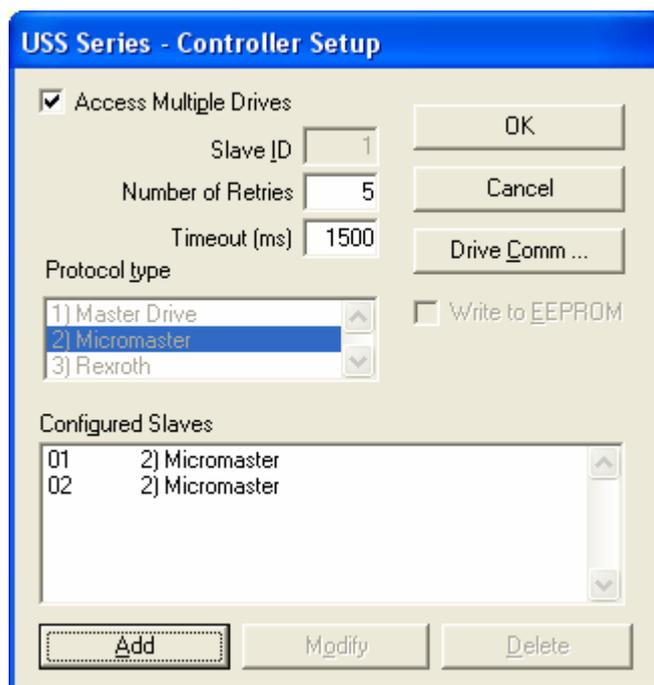

Figure 2
- Slave ID Override** allows to change at run time the Slave ID of the target device; each device configured in the network shown in Figure 2 has its own “Slave ID Override”; when different from -1 is interpreted like new Node ID for the slave; when reverted to -1, the Slave ID is restored back to the original project value. The Slave ID Override function can be used for a maximum number of 32 slaves configured into the project.